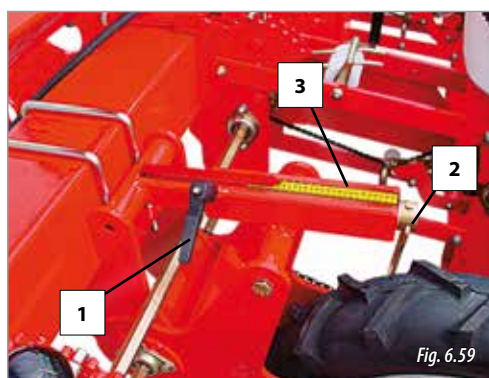

Fig. 6.59
- 2- Loosen the locking lever (1, Fig. 6.59)
- 3- Turn the crank (2, Fig. 6.59) until the wheel is placed at the desired height. To adjust the wheel use the graduated scale (3, Fig. 6.59).
- 4- Lock the wheel's position using the lever (1, Fig. 6.59).